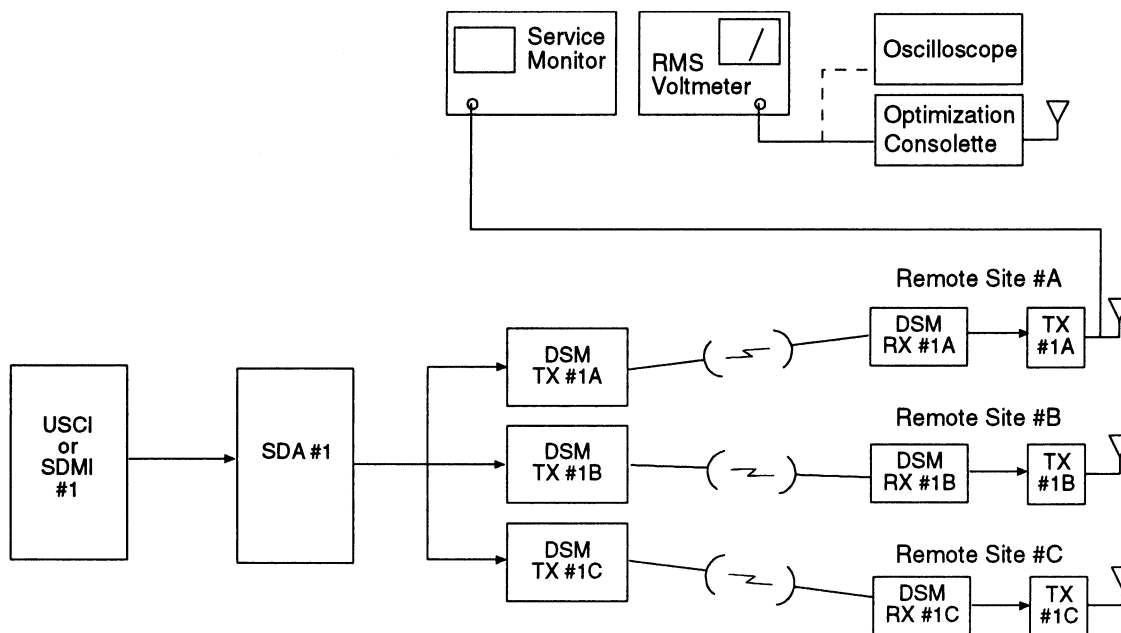

Figure 29. Two-Level Deviation Adjustment Equipment Set Up
- Step 2. Refer to Figure 29 and set up your equipment to adjust coded deviation in a two-level system.